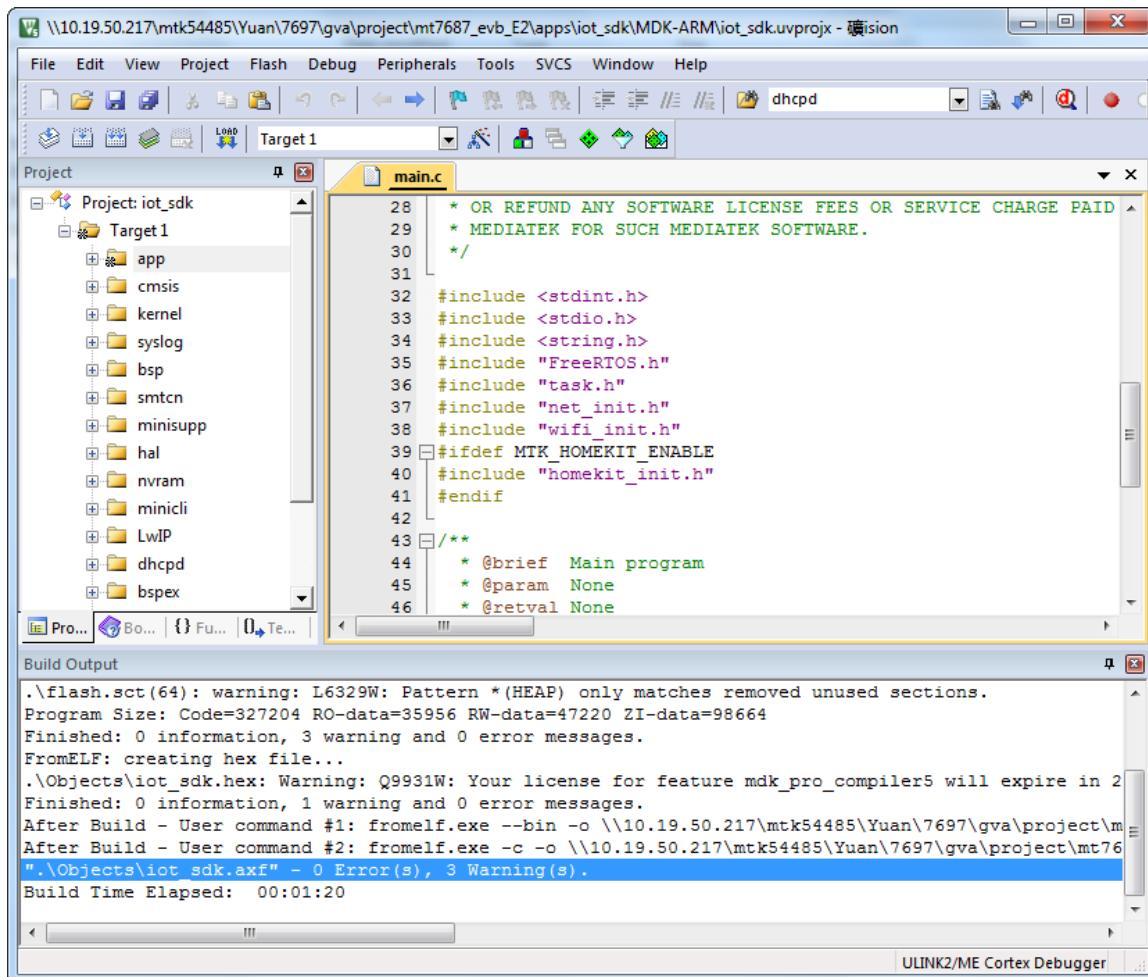

Figure 49. Project build result
- 4) The **Build Output** window is updated with the result, as shown in Figure 49.